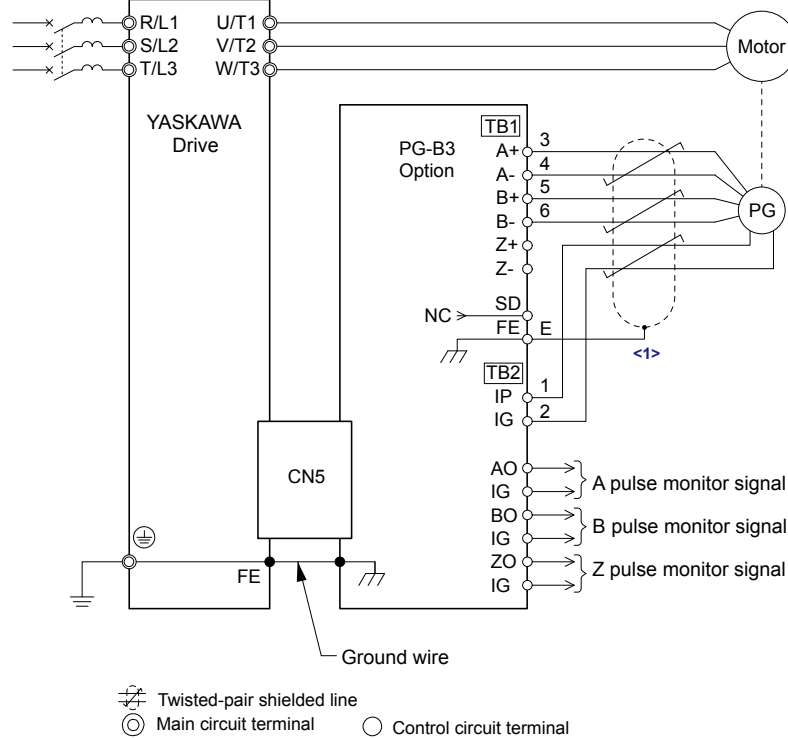

Figure 8.8 PG-B3 Option and Encoder Connection Diagram
5. Wire the motor PG encoder to the terminal block on the option. Refer to Figure 8.8 and Figure 8.12 for wiring instructions.